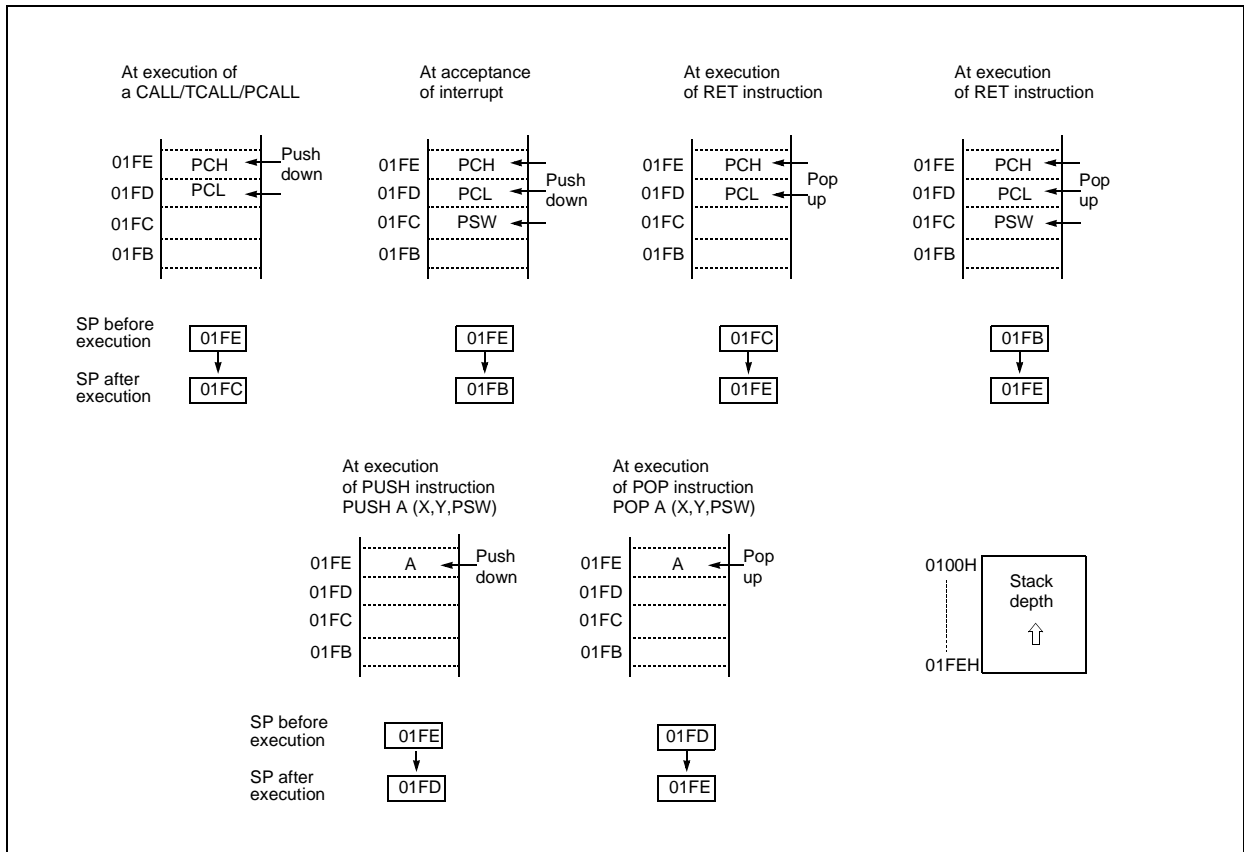

Figure 8-4 Stack Operation
The save/restore locations in the stack are determined by the stack pointer (SP). The SP is automatically decreased after the saving, and increased before the restoring. This means the value of the SP indicates the stack location number for the next save. Refer to Figure 8-4 on page 20.